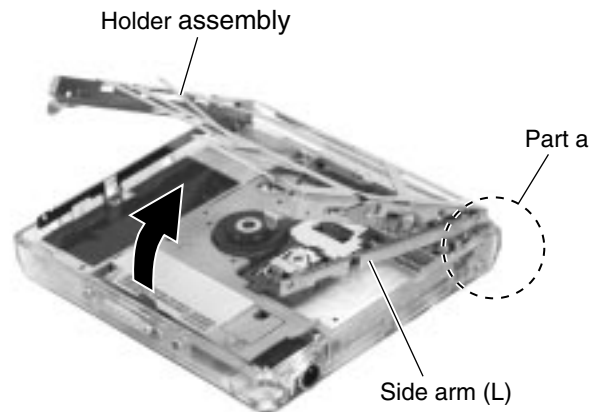

Fig.3
■ Removing the holder assembly (See Fig.3 and 4)
1. Turn the Holder assembly as shown in Fig.3.